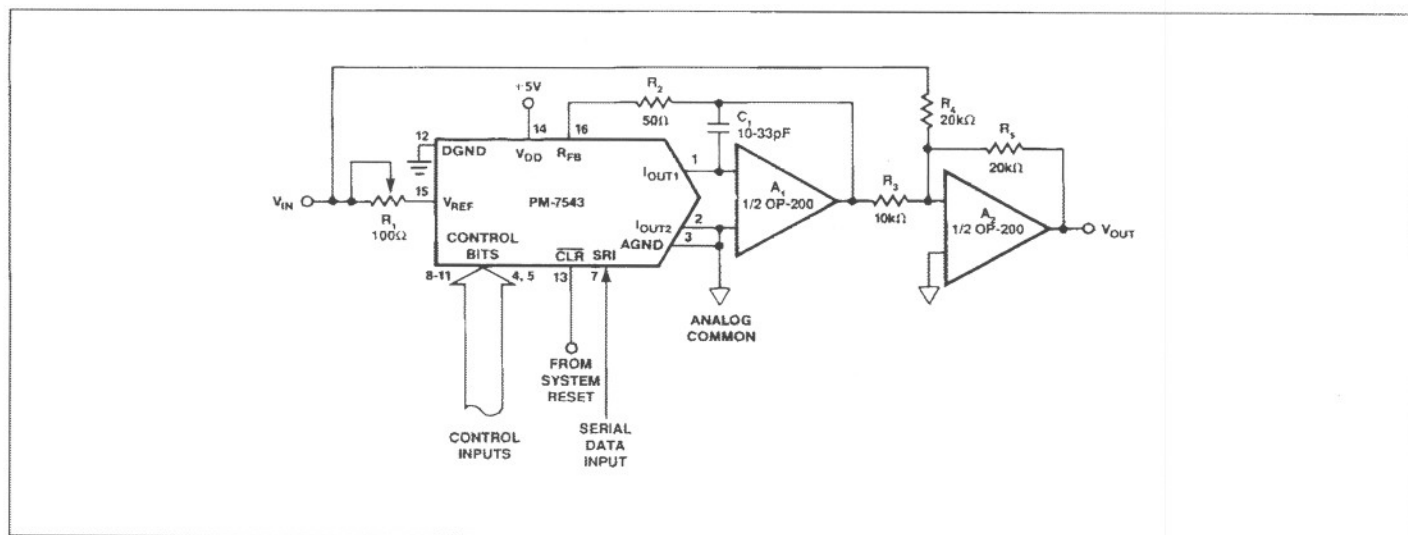

FIGURE 9: Bipolar Operation (4-Quadrant, Offset Binary)
Figure 9 details a suggested circuit for bipolar, or offset binary operation. Table 3 shows the digital input to analog output relationship. The circuit uses offset binary coding. Two's complement code can be converted to offset binary by software inversion of the MSB or by the addition of an external inverter to the MSB input.
- Nominal full scale for the circuits of Figure 9 is given by
- Nominal LSB magnitude for the circuits of Figure 9 is given by